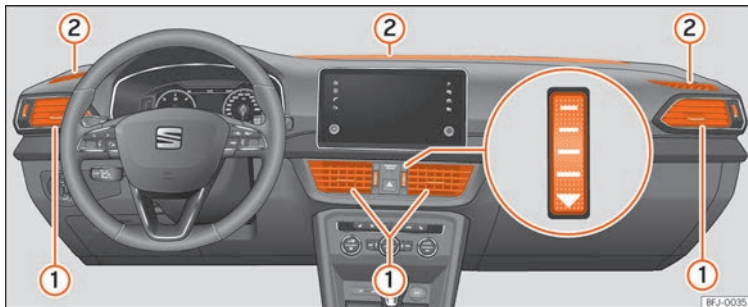

Fig. 187 On the dash panel air vents.
To ensure proper heating, cooling and ventilation in the vehicle interior, air vents » Fig. 187 ① should remain open.